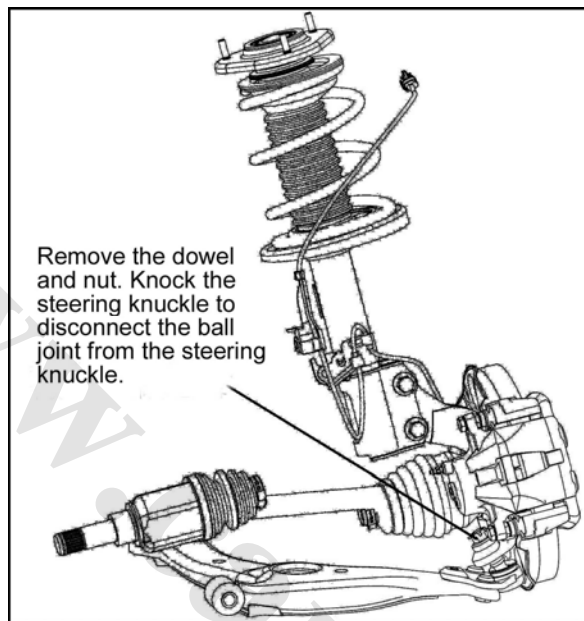

Fig. 2-14
- 2) According to Fig. 2-14, dismantle the cotter pin and slotted nut from the ball head bolt, and knock the steering knuckle to remove the ball pin of the lower arm from the steering knuckle.